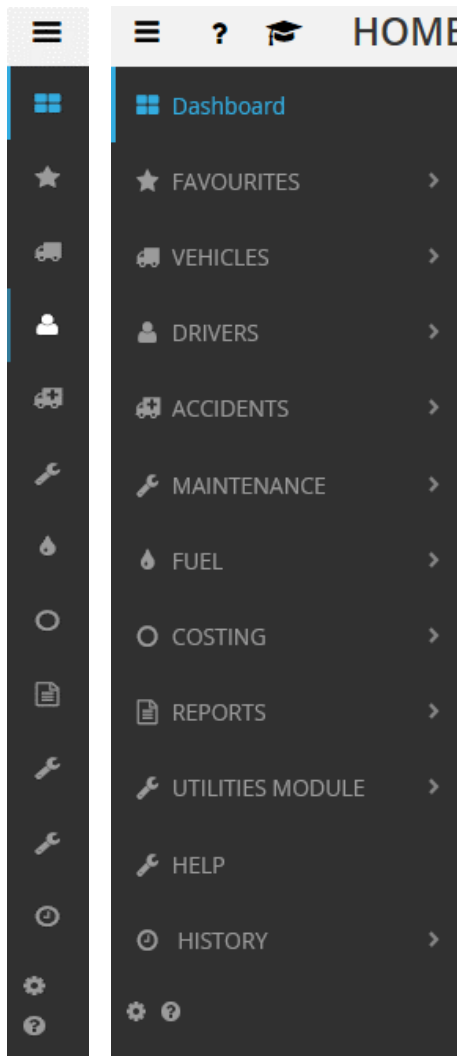

Figure 1 Figure 2
2.3.2. When you first log into your FleetWave Application, the Left menu is collapsed and you will see a narrow column of menu icons as in Figure 1.